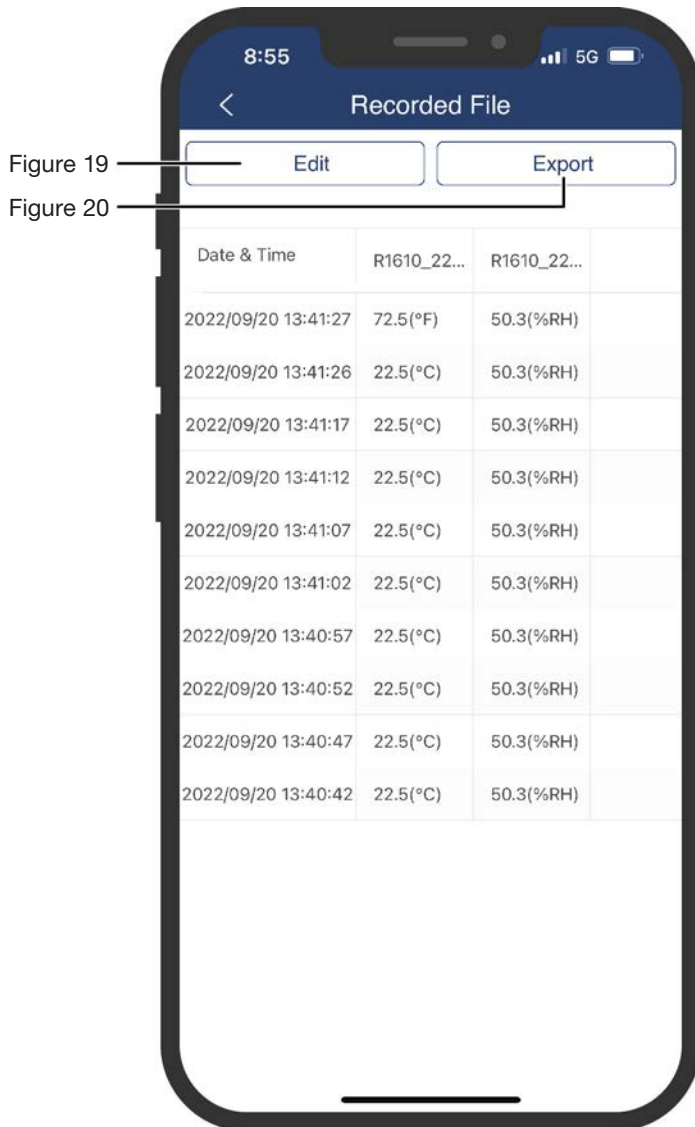

Figure 21
6. Data can be selected via 2 export file formats: PDF File (.pdf) or Excel File (.csv). (Figure 21)